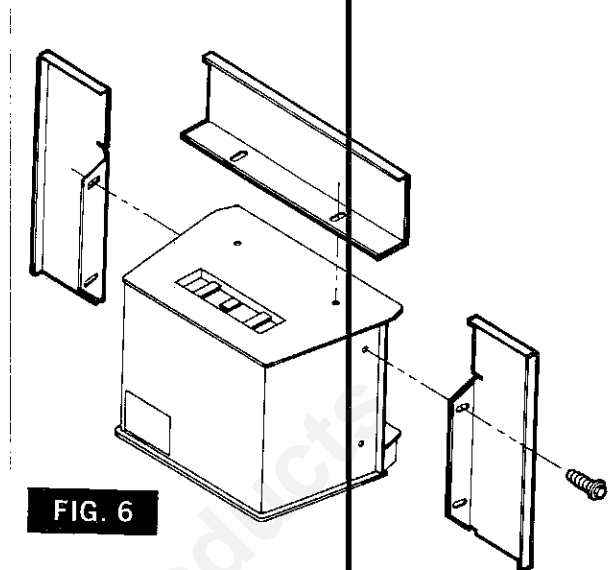

FIG. 6
7. Mount the trim panels using a 3/8" socket or adjustable wrench and the (6) 1/4-20 self threading screws provided. (Fig. 6).